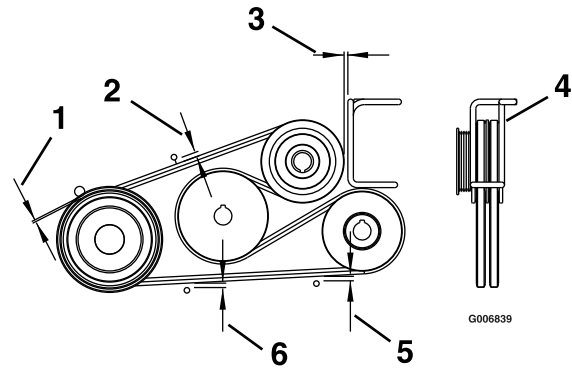

Figure 51
4. Adjust the belt guides as shown in Figure 51.